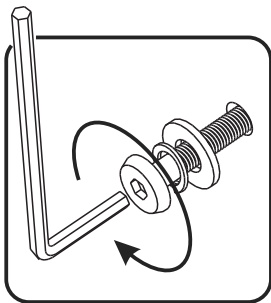

Figure 1
Attach Stretchers (B) and Shelf (D) to Side Frames (C) with Head Cap Bolts, Spring Washers and Flat Washers, tightening bolts only halfway. (See Figure 1)